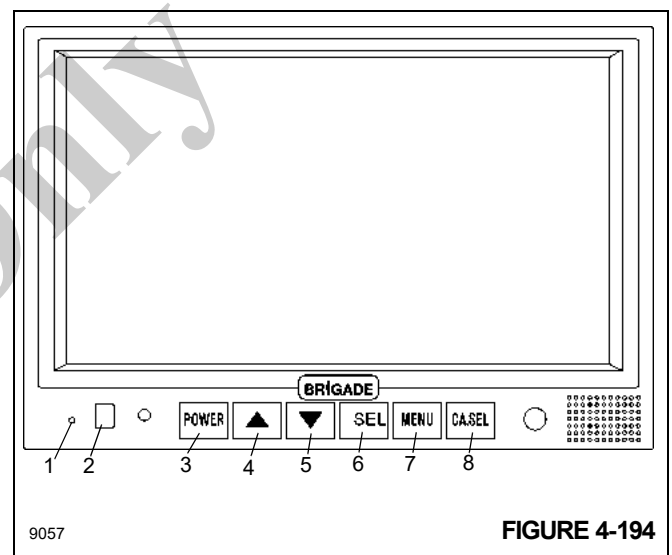

FIGURE 4-194
1. Press the Menu Button (7), (Figure 4-194).
2. Select Camera Setup (8), (Figure 4-194).
3. Press the Select Button (6), (Figure 4-194).
5. Press the Scroll Down Button (5), (Figure 4-194) to select Double Screen 1.
6. Press the Scroll Down Button (5), (Figure 4-194) to select Left CA1, Right CA2.